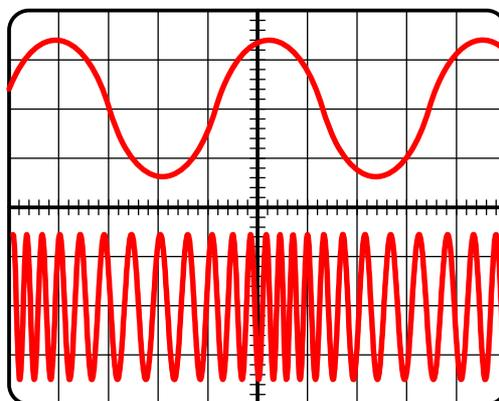

Figure 6-16.
10. Set the sweep to 50 μ s/DIV, and trigger on CH1. Adjust the FUNCTION GENERATOR for a 2.0 V_{pk-pk}, 5 kHz sine wave at T. This adjustment is equivalent to varying the voltage at T by \pm 1V. Now, set the sweep to 0.5 μ s/DIV and trigger on CH2. Observe CH2, which shows an **FM signal** like the one in Figure 6-16.